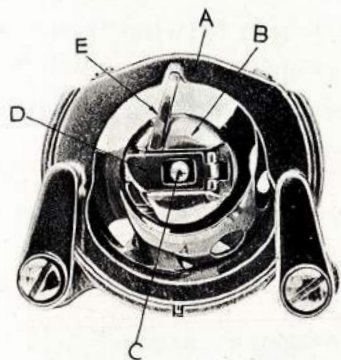

Fig. 8
Raise needle bar to highest position, and lift hinged cover plate. (See 15 Fig. 1) Hold the bobbin case latch (D, Fig. 8), between the thumb and forefinger of the left hand, with at least three inches of thread running from the top of the bobbin case to the right. Insert and center the bobbin case on the stud of the shuttle body, (C). Be sure the bobbin case finger (E) is opposite the shuttle race notch, (A). Press the bobbin case (B) into the shuttle as far as possible until latch catches on the center post of the shuttle. Then release the bobbin case latch, (D). Press bobbin case again after latch has been released to make sure the bobbin case is locked securely. Close the cover plate.